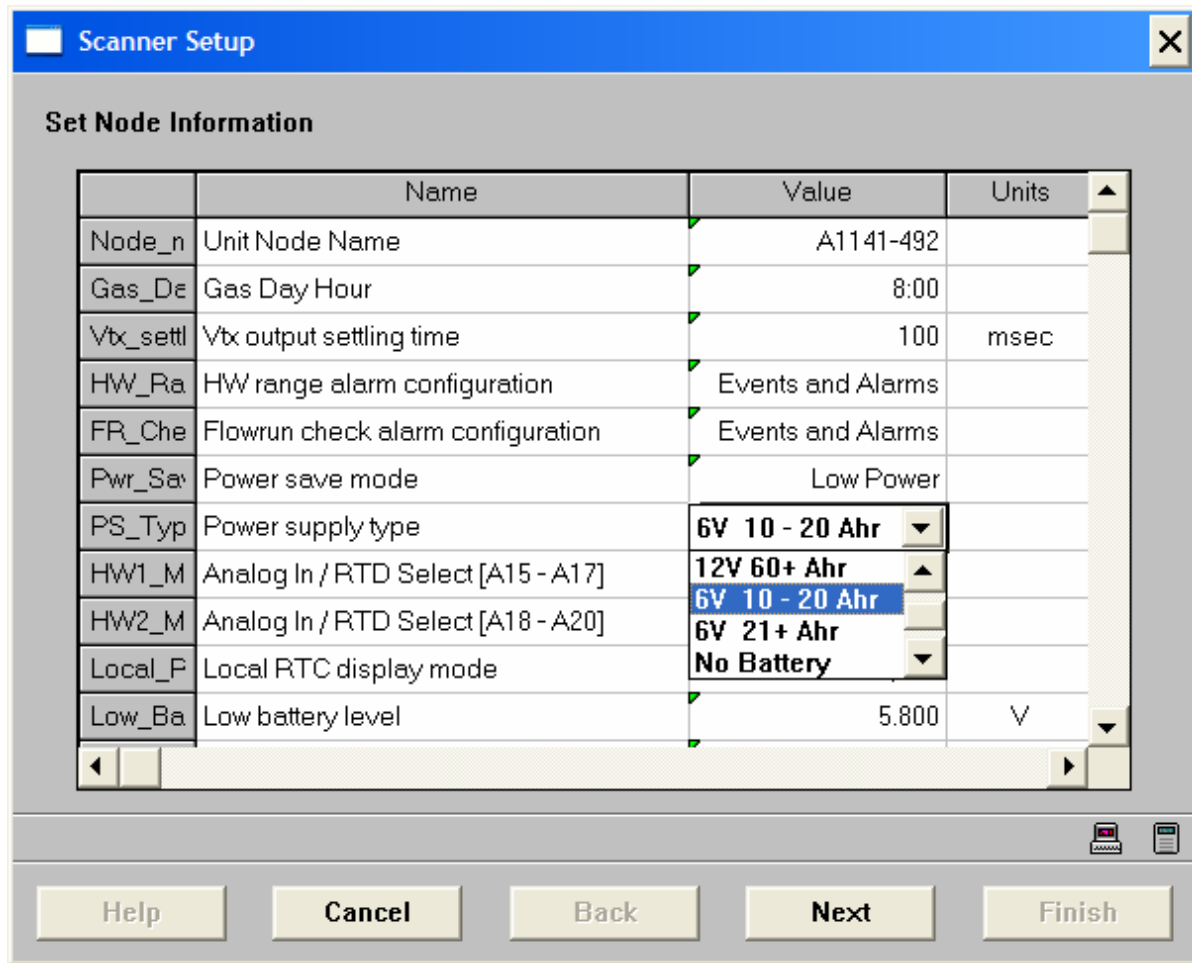

Figure 2.11—Power supply type selection
2. Open the ScanWin program and navigate to Setup> Scanner Setup>Power supply type to select the battery type used (Figure 2.11).